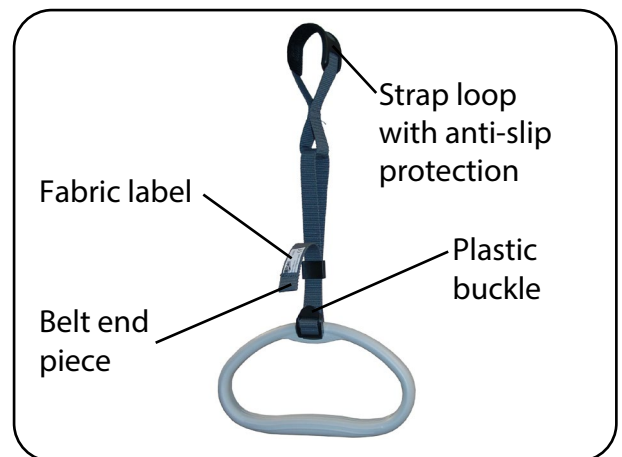

Fig. 6.5.03 – Grab handle with strap
5. Adjust the height of the grab handle to the patient's individual needs. The strap can be adjusted in a range of 20 cm using a plastic buckle (Fig. 6.5.03). When doing so, make sure that no weight is applied to the handle. Make sure that the strap's end piece is at least 3 cm above the plastic buckle (Fig. 6.5.03).